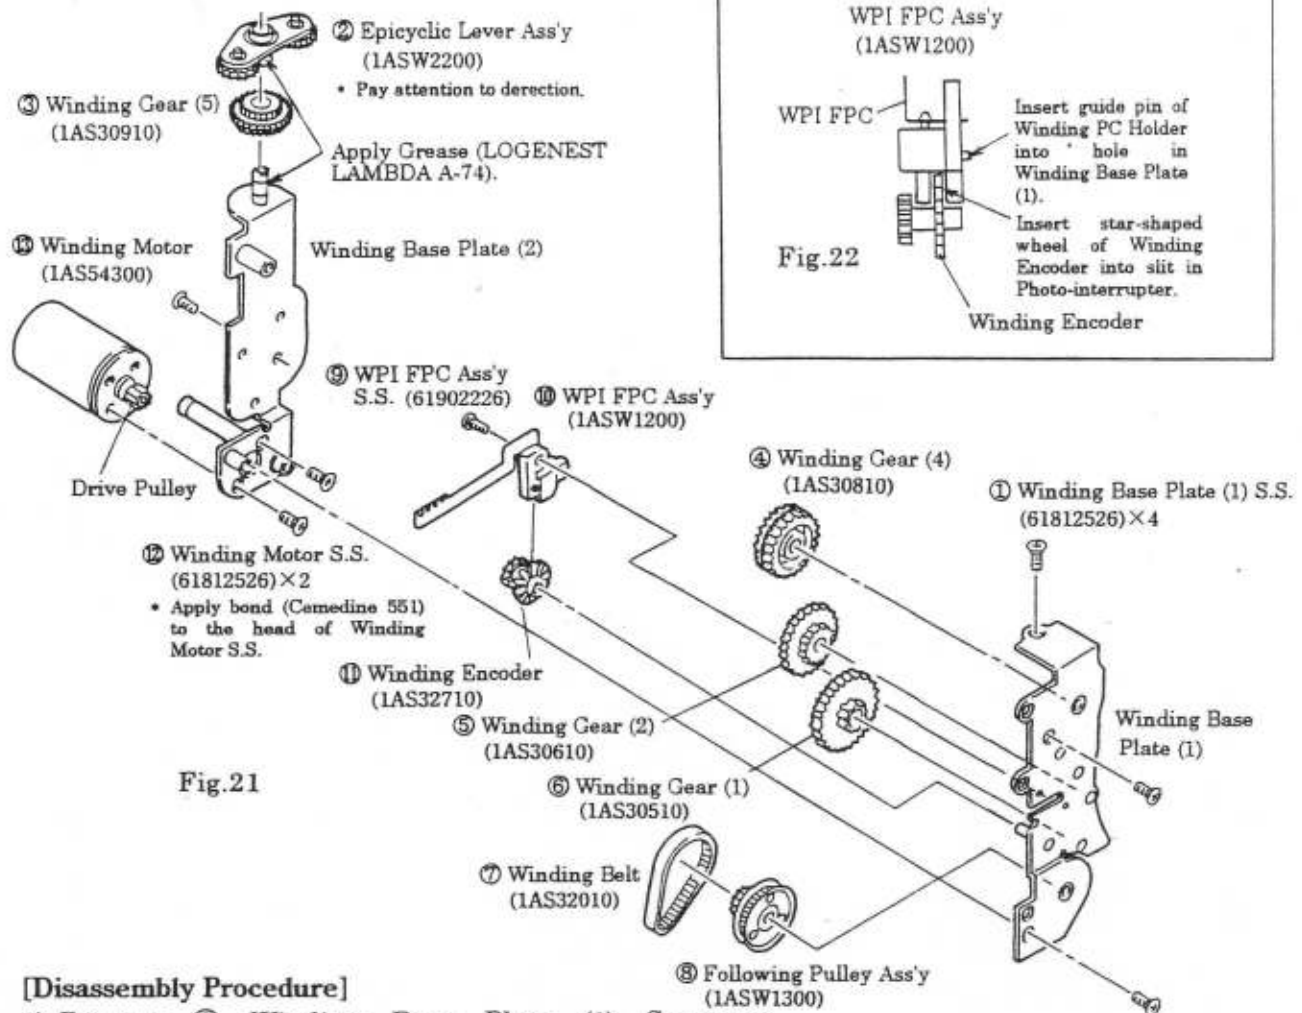

Fig.21
- 1) Remove ① Winding Base Plate (1) Setscrews (61812526) x 4 and separate the Winding Base Plate (1) and Winding Base Plate (2) from each other.
- 2) Remove parts in the numerical order of ② to ⑬ shown in Fig. 21.
- Apply Grease (LOGENEST LAMBDA A-74) as shown in Figs. 21 and 23.